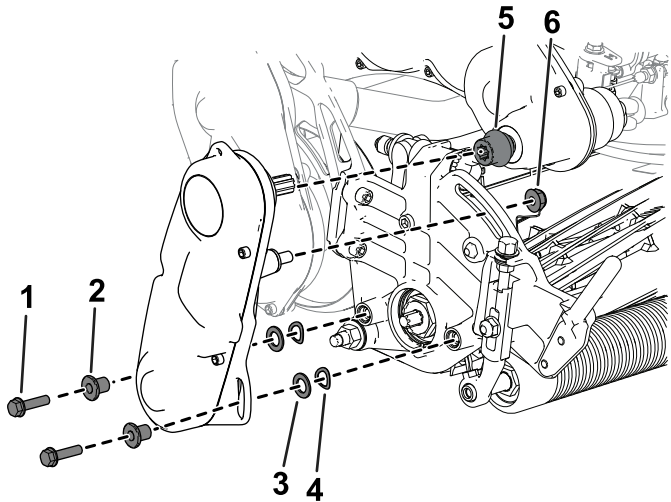

Figure 35
6. Use the previously removed socket-head screws, washers, and spacers to secure the reel-drive assembly to the cutting-unit side plate (Figure 35).
Ensure that the reel-drive-assembly driveshaft is installed to the transmission-driveshaft coupler (Figure 35).